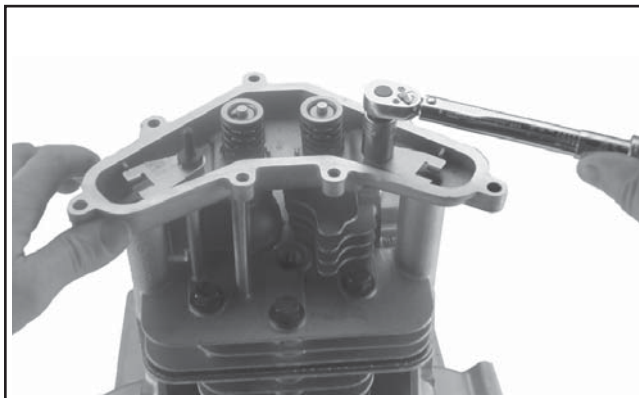

Figure 10-42. Installing Guide Plates and Rocker Arm Pivot Studs.
- Position the push rod guide plates on the cylinder head with the extruded edges down over the push rod bores. Secure by installing the rocker arm pivot studs. Torque the studs to 13.5 N·m (120 in. lb.). See Figure 10-42.